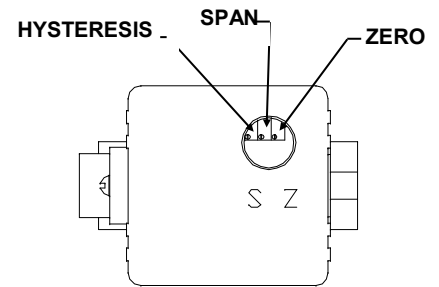

Figure 1
4. Locate the plastic calibration access cap on top of the QBS valve and completely remove it. Located underneath are two adjustment trimpots, Zero "Z" and Span "S". See figure 1 for pots location.
12. If at any time during the calibration procedure the QB control valve oscillates or becomes unstable for more than one second, turn the HYSTERESIS potentiometer (see Figure 1 for location) counter-clockwise until the oscillation stops, then turn it one more complete turn (same direction).
8. If at any time during the calibration procedure the QB control valve oscillates or becomes unstable for more than one second, turn the HYSTERESIS potentiometer (see Figure 1 for location) counter-clockwise until the oscillation stops, then turn it one more complete turn (same direction).